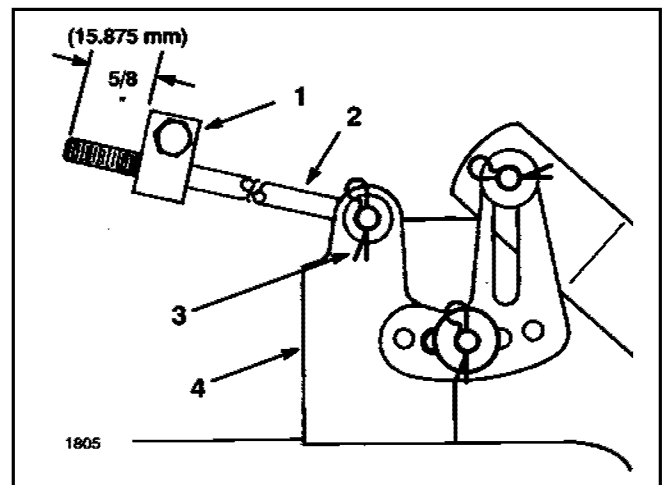

Figure 45 XL44pit1.TIF
2. Measure the length of the rod extending out the front of the adjusting block on the sides of the chassis (Figure 45). If the rod length is not 5/8 inch (15.875mm), remove the hairpin cotter and washer from the end of the rod and turn the rod until the 5/8 inch (15.875mm) dimension is obtained. Then install the end of the rod into the hole in the mower mount and secure in place with the washer and hairpin cotter. Repeat this procedure on the opposite side of the mower.